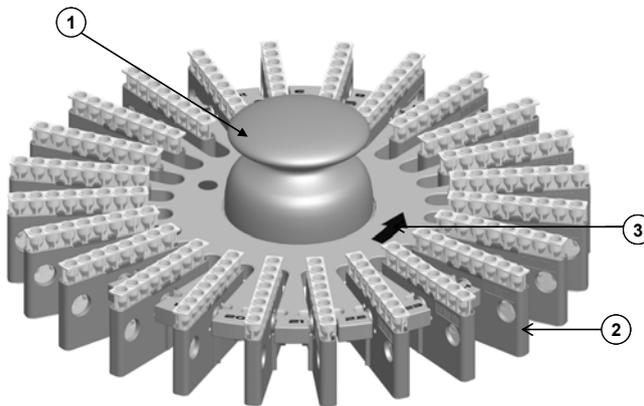

Figure 4 : *DG Spin* Head
The *DG Spin* head is a circular support with 24 positions numbered with Card holders (Ref. (2), Figure 4) to place the *DG Gel* cards for their centrifugation.
- (1) Knob
- (2) *DG Gel* card holders
- (3) Direction of centrifugation
The *DG Spin* Head is removable and interchangeable with the aim of increasing the comfort of the OPERATOR when loading and unloading the cards. To remove it, lift it vertically by means of the Knob (Ref. (1), Figure 4) until it is released from its Lean axle (Ref. (2), Figure 4).
- Remove the *DG Spin* Head from the Centrifugation chamber and verify that all the Card holders (Ref. (2), Figure 4) of the *DG Spin* Head are perfectly placed and held by the corresponding pivot.